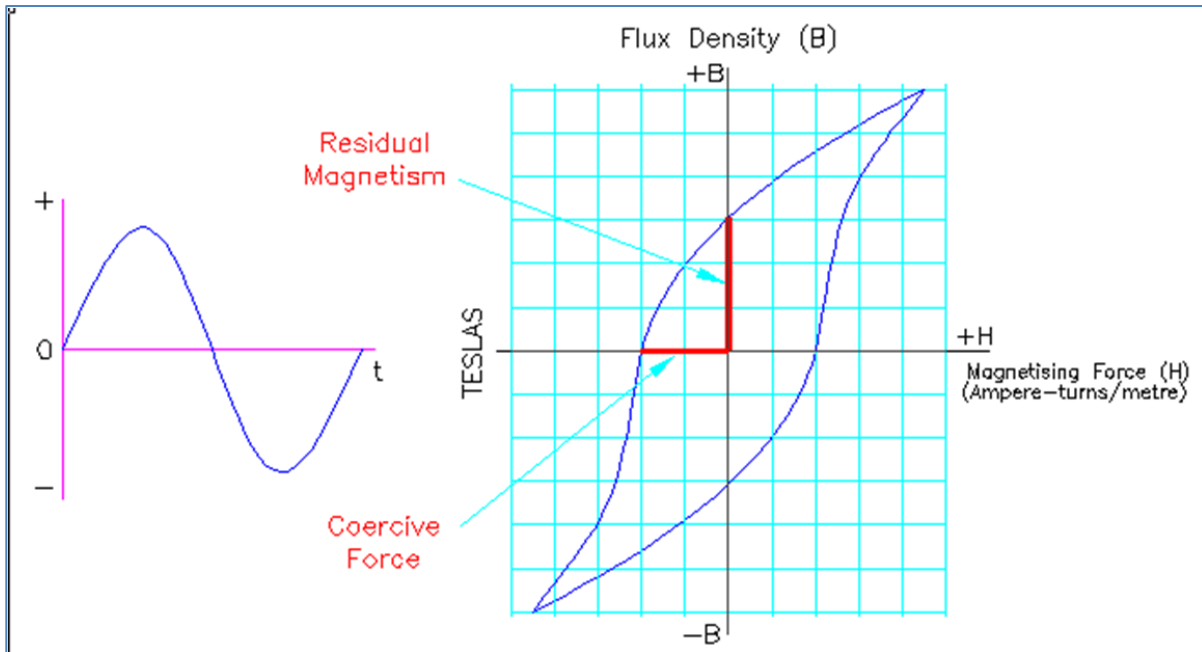

Figure 10 - Hysteresis loop
30. Hysteresis losses occur because the iron of an a.c. electromagnet does not lose all of its magnetism as soon as the magnetic force is removed. A small amount of power has to be used after each half cycle to overcome this residual magnetism (or remanence), before the core can be re-magnetised with the opposite polarity. Hysteresis loss is usually expressed in watts of loss per kilogram of core. A typical hysteresis loop is shown in Figure 10.